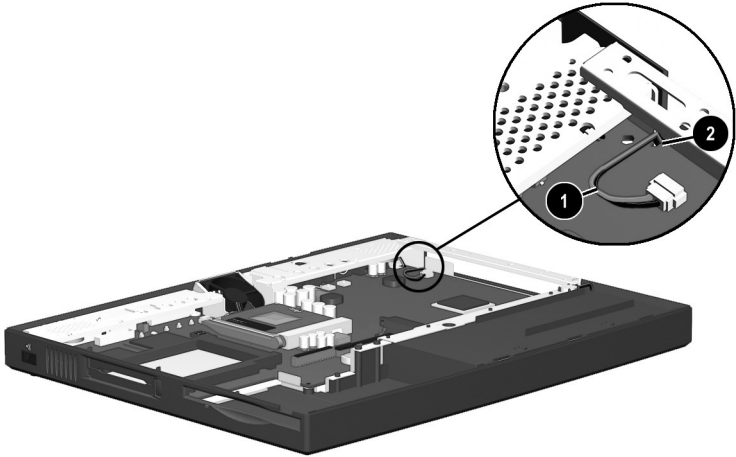

Figure 5-27: Routing the Microphone Cable
When installing the system board, route the microphone cable **①** through the slot **②** on the right side of the system board as indicated in Figure 5-27.